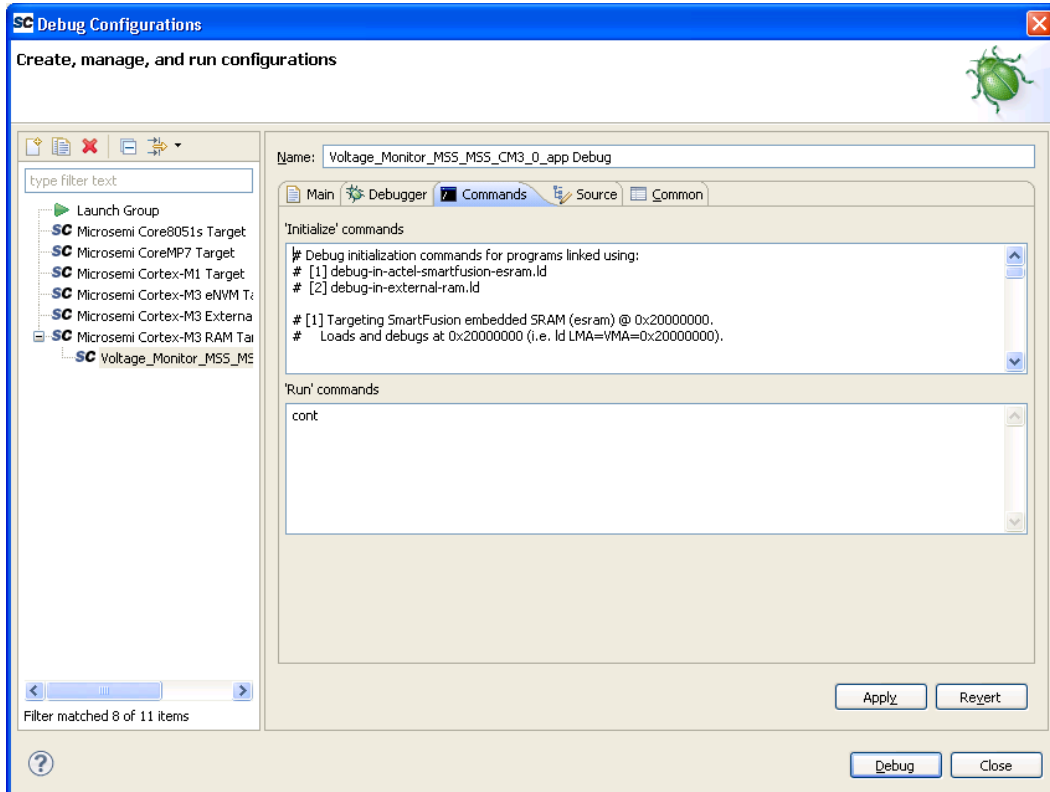

Figure 36 · Debugger Commands
4. Select the **Commands** tab. Confirm that commands appear in the Initialize and Run command sections, as shown in Figure 36 :